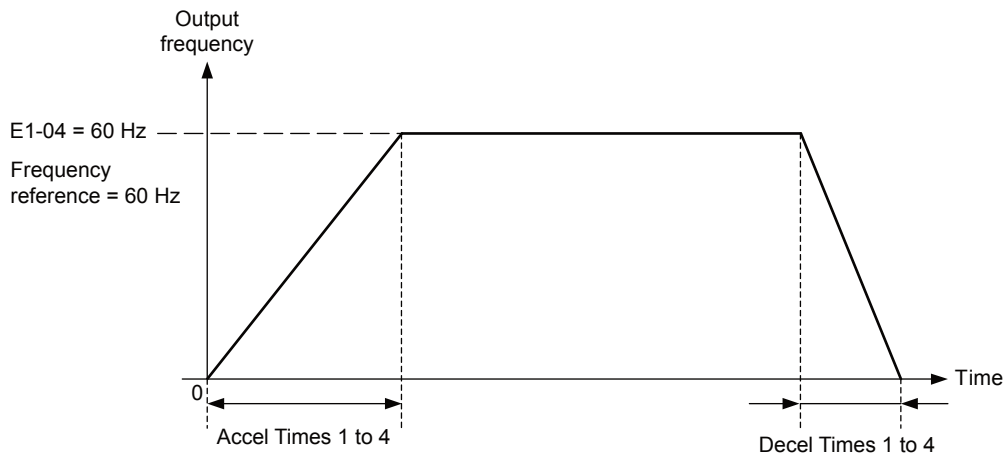
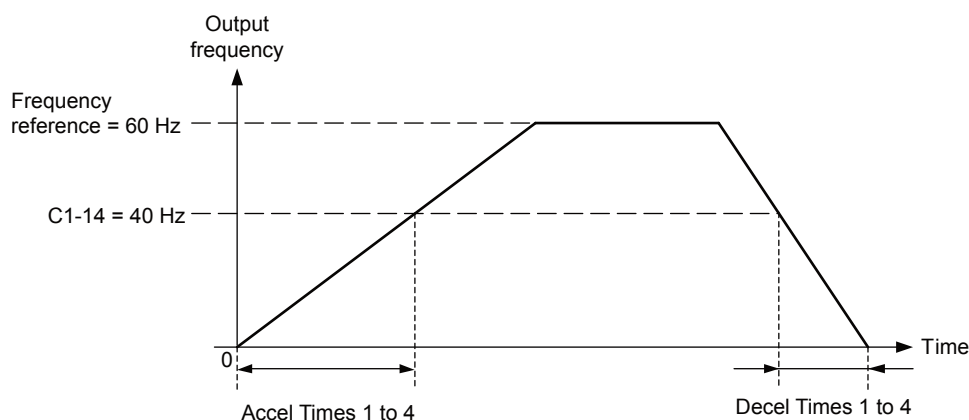
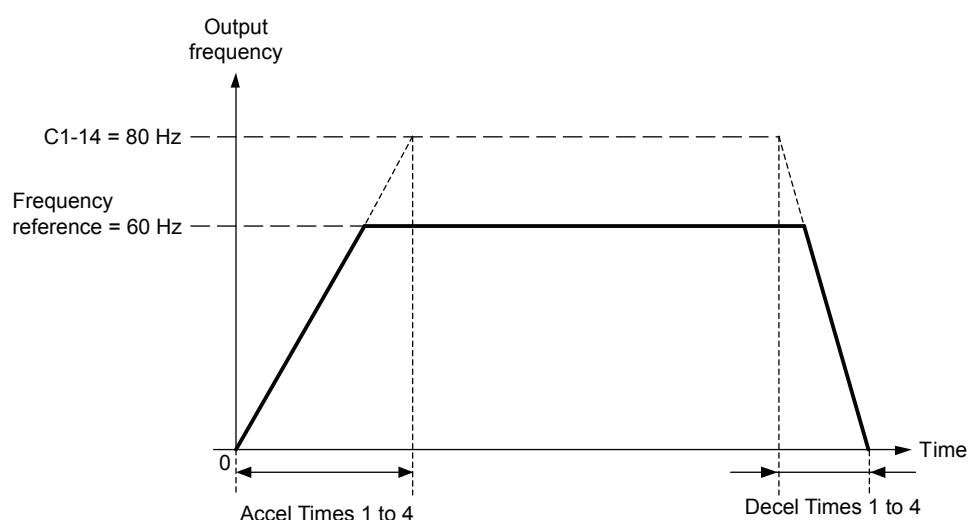

Figure 5.24 Accel/Decel Rate, Example 1 (C1-14 = 0 Hz, E1-04 = 60 Hz, Frequency Reference = 60 Hz)
Figure 5.25 Accel/Decel Rate, Example 2 (C1-14 = 40 Hz, E1-04 = 60 Hz, Frequency Reference = 60 Hz)
Figure 5.26 Accel/Decel Rate, Example 3 (C1-14 = 80 Hz, E1-04 = 60 Hz, Frequency Reference = 60 Hz)
Operation example is shown in *Figure 5.24*.
Operation examples are shown in *Figure 5.25* and *Figure 5.26*.
1. The accel/decel times shown in Figure 5.24 to Figure 5.26 assume S-curve characteristic time during accel/decel at start and accel/decel at stop of 0.00 s (parameters C2-01 to C2-04).